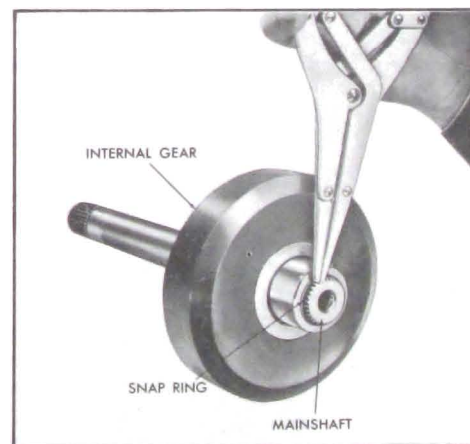

Figure 5-568
14. If necessary, remove the rear internal gear to mainshaft snap ring to remove mainshaft. See Figure 5-568.